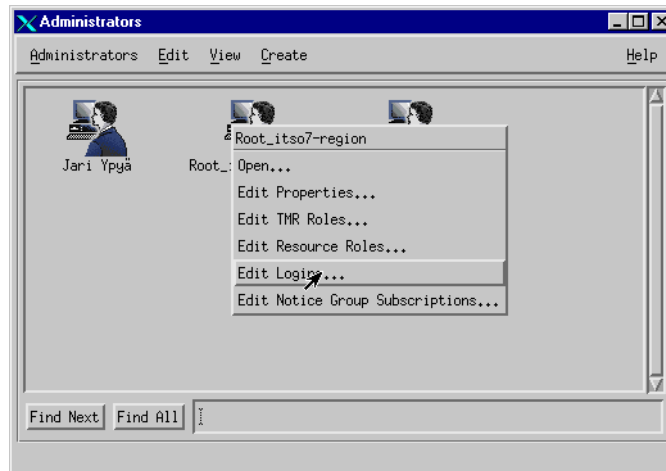

Figure 34. Edit Login menu
1. Add the correct logins to the Tivoli Administrator user (in our case, Root\_itso7-region) by right-clicking and selecting the **Edit Login ...** menu as shown in Figure 34.